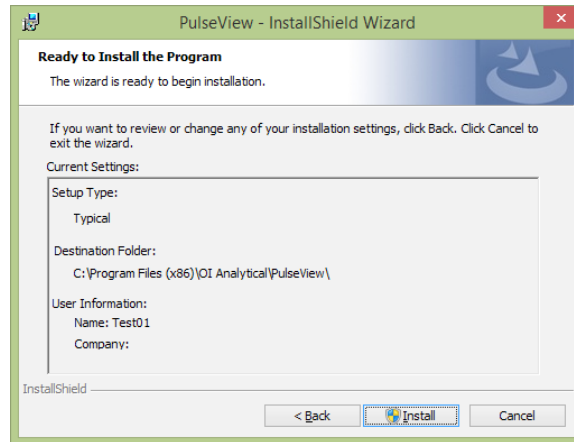

Figure 3.41. PulseView Software Installation Path
3. Click **Next** to review the installation path and information (Figure 3.41).